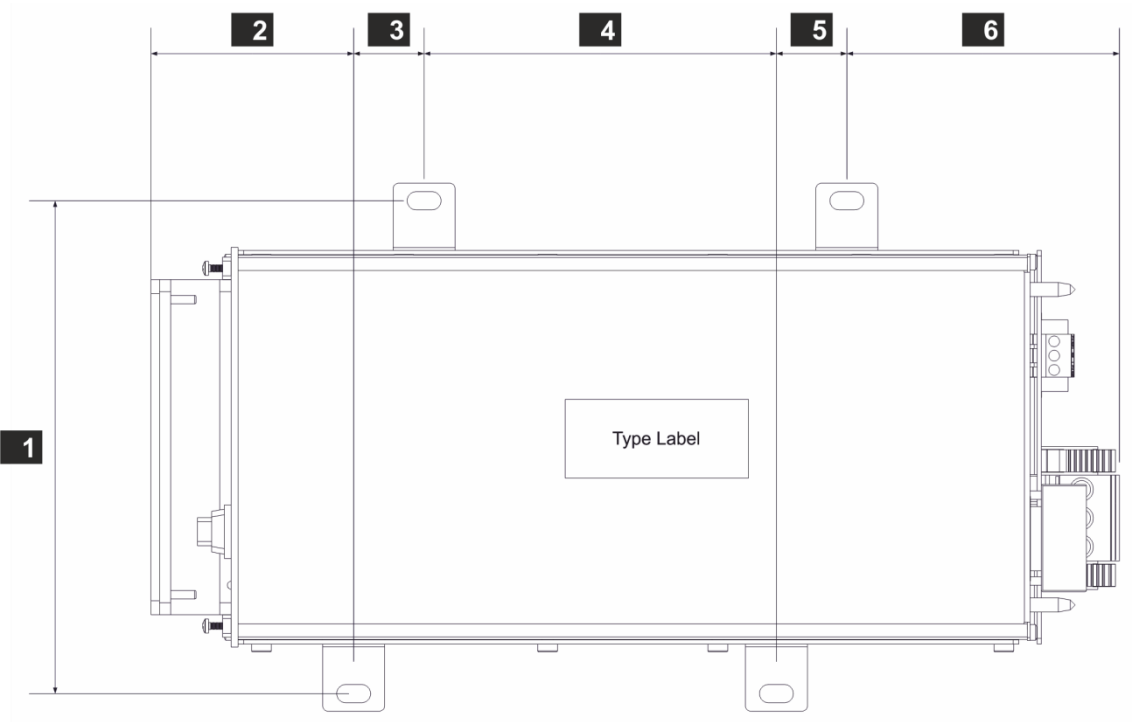

Figure 4: Dimension Drawing of the Wall Mounting Variants
- The power supply unit is equipped with four fastening points and can be secured vertically or horizontally. The fastening points are spaced in 25 mm intervals so that the power supply unit fits the mounting frame's profile rails within the HIMA control cabinet, see the scale drawing in Figure 4.